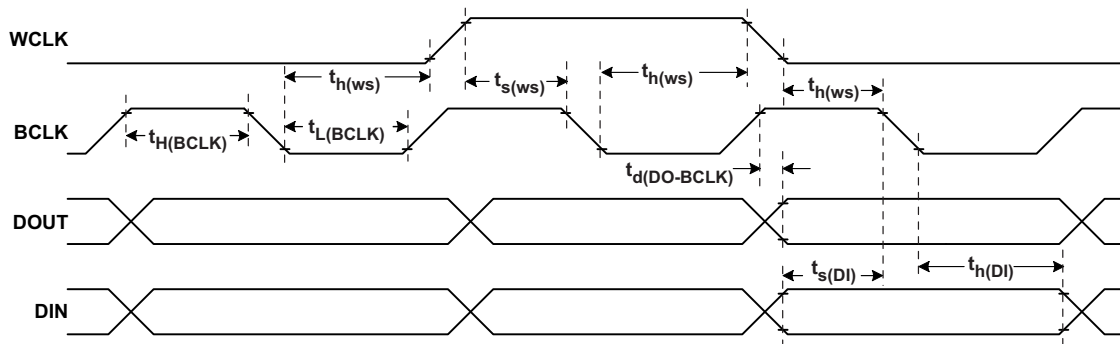

Figure 5. DSP/Mono PCM Timing in Slave Mode
8.15 DSP/Mono PCM Timing in Slave Mode (see Figure 5)
DSP/Mono PCM Timing in Slave Mode (see Figure 5) (continued)